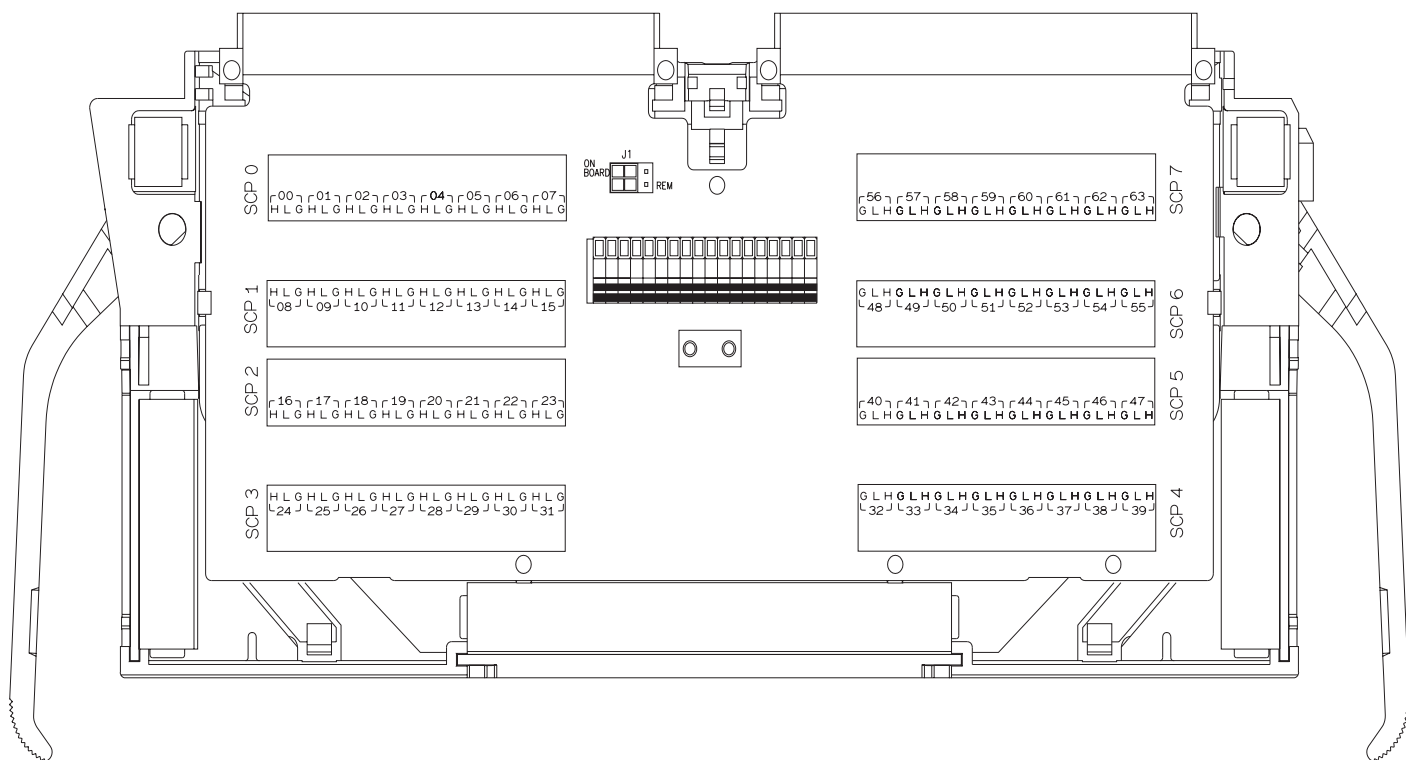

Figure 1 VT1502A C-Size Terminal Module Connections
- For VT1413C and above Terminal Modules, use stickers for VT1502A SCPs. The connections are shown in Figure 1.
Open Transducer Detection (OTD) is controlled by bits in the Card Control Register. For more information on OTD see Figure 1.